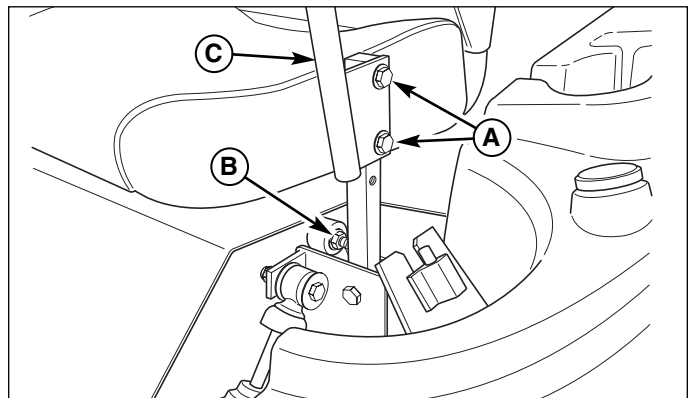

Figure 32. Control Lever Adjustment
Loosen the mount hardware (A, Figure 32) and pivot the lever(s) (C, Figure 32) fore or aft to align with each other.
Loosen the jam nuts and adjust the placement bolt (B, Figure 32) in or out to properly adjust the lever end spacing.
Remove the mounting hardware (A, Figure 32) and reposition the handle either up or down from its original position. You will need to readjust the handle alignment as described above.
3. With the parking brake engaged, measure the compressed spring length (see Figure 32). The spring should be 2-1/8" - 2-1/4" (5,4 - 5,7 cm) long when compressed.
4. If the spring does not measure 2-1/8" - 2-1/4" (5,4 - 5,7 cm), release the parking brake and turn the adjustment nut (B) to adjust the spring length